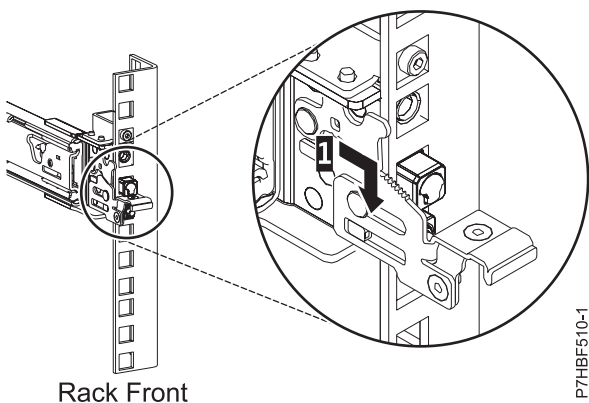

Figure 5. Pins that are seated on the front rail of the rack
6. Pull the slide rail forward and insert three pins on the front of the rail into the holes within the selected U that were previously marked. Lower the slide rail down (1) to engage the hook feature on the middle pin. For details, see Figure 5.